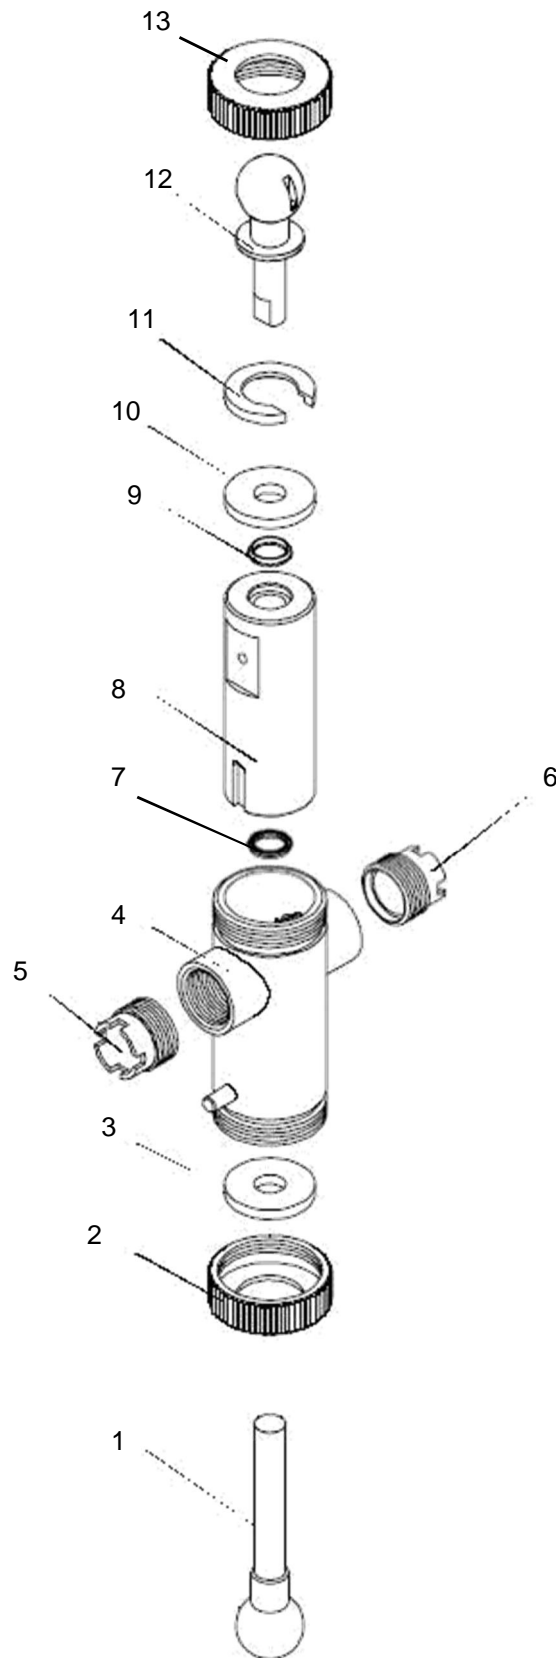

Figure 7.2 LF Multiplex Pump Module Component Assembly/Disassembly
7.5.2 Assembly/Disassembly Procedures (Figure 7.2)
5. Push slide door (7) up to secure piston ball in place.
7.5.2.2 Piston/Cylinder/Valve (Figure 7.2 Items 1, 8 and 12)
7.5.2.3 Case (Figure 7.2 Item 4)
7.5.2.4 End Caps and Washer (Figure 7.2 Items 2, 13, and 3)
1. Secure end cap (13) to case (4) by turning in a clockwise direction.
2. Position washer (3) on ceramic cylinder (8) so hole in washer (3) lines up with hole in ceramic cylinder (8).
3. Secure end cap (2) to case (4) by turning in a clockwise direction.
4. Install ceramic piston fabrication (1) into ceramic cylinder (8) by slowly pushing and turning ceramic piston fabrication (1) while holding case (4).
7.5.2.5 Washers (Figure 7.2 Items 10 and 11)
1. Slide washer (10) onto valve fabrication (12).
2. Install ceramic valve fabrication (12) from case (4) and washer (11) into ceramic cylinder (8) by slowly pushing and turning ceramic valve fabrication (12) while holding case (4).
3. Secure end cap (13) to case (4) by turning in a clockwise direction.
7.5.2.6 Lip Seals (Figure 7.2 Items 7 and 9)**Disassembly**